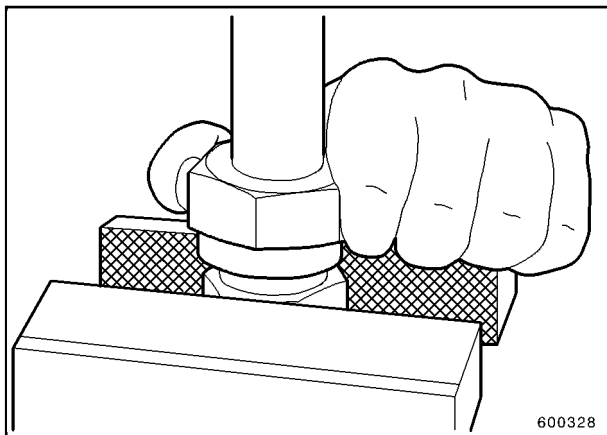

Fig. 8
5. Tighten union nut by hand until resistance is noticed (Fig. 8). The cutting ring must come firmly into its position between union nut and inner cone of the coupling body.